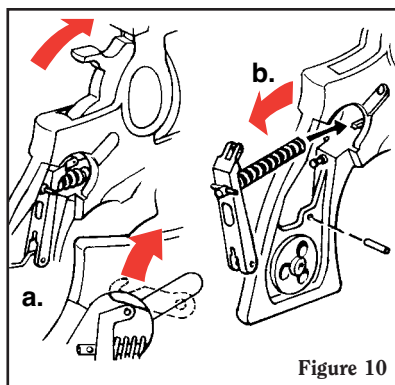
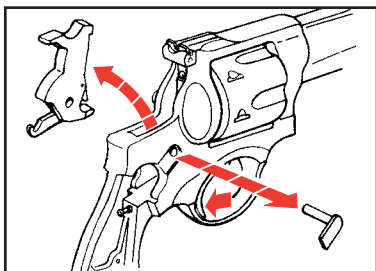

Figure 10
Figure 11
4. With a thumb on the hammer spur, squeeze the trigger, keeping pressure on the hammer with your thumb to allow the hammer to go fully forward slowly. Remove the hammer pivot assembly. With the muzzle pointing down, slowly lift the hammer upward and out of the frame (See Figure 11, p. 22). It may be necessary to move the mainspring lever forward in order to cause the hammer link hook to detach from the mainspring lever (See Figure 10 a.). If careful manipulation of the hammer and trigger does not disengage the hook, disengage it with the tip of a jeweler's screwdriver or similar device when the hook is in a near-off position.
Removal can best be accomplished by twisting the lever slightly as the assembly is drawn from the frame toward the rear (See Figure 10 b.).
The information below applies only to those revolvers in which the Hammer Link (KH06900) is assembled to the hammer with the link hook pointing downward, as illustrated in Figure 10 below.